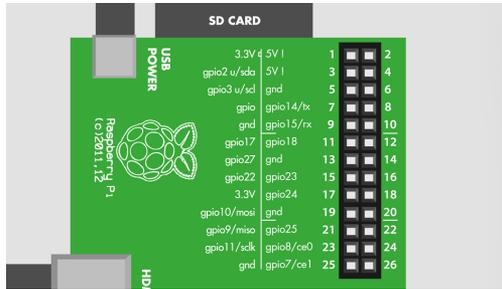

Figure C-3. The GPIO pin header
Raspberry Pi has a GPIO pin header for connecting external components. The GPIO pin header has 26 pins (see Figure C-3). Most pins can have multiple functions, and you can choose which one you use. In this experiment, you learn the “out” mode to turn the pin on (3.3 V) and off.
Find the correct pins on the GPIO header. The pin number one is marked with a small white box on the board. The numbering diagram (see Figure C-3) shows both the human-friendly name (GPIO 27) and the running number of the pin (13). The pins are: